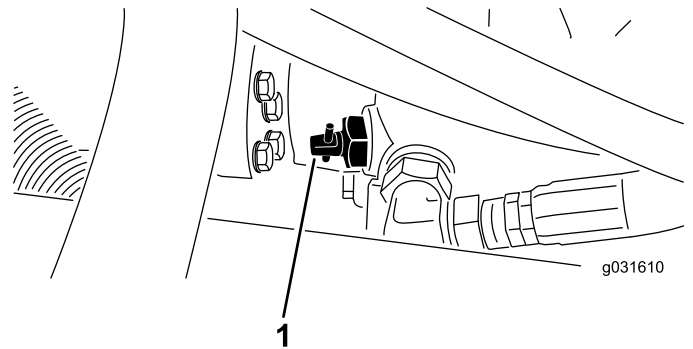

Figure 30
1. Locate the bypass valve on the pump (Figure 30) and loosen it by rotating 90° (1/4 of a turn).